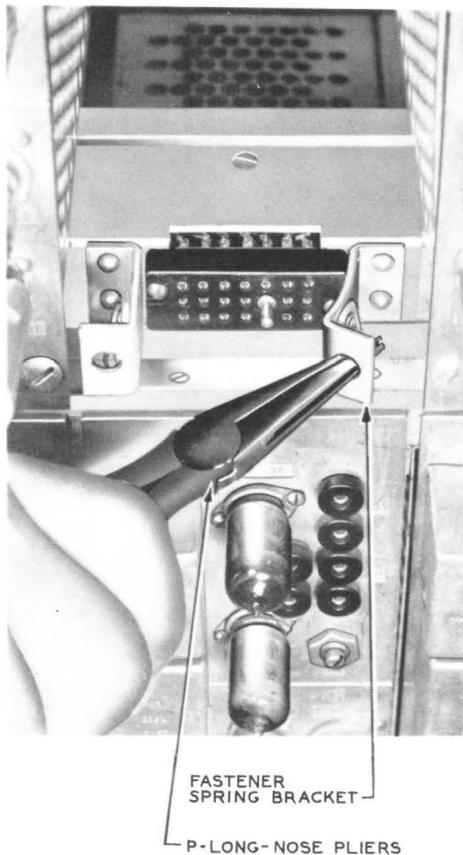
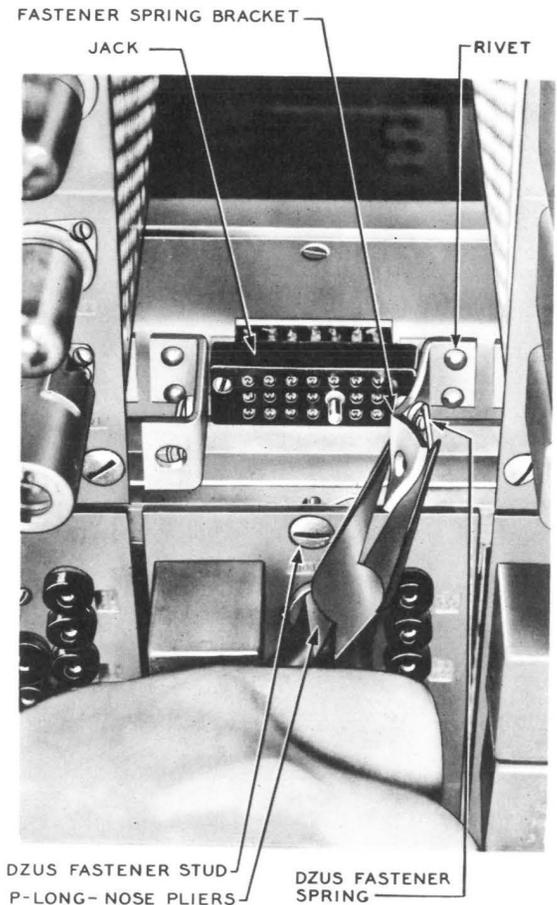

Fig. 2 - Method of Bending Bracket to Gain Access to Rivet
Fig. 3 - Method of Bending Bracket to Gain Access to Rivet
4.03 Removal and Remounting of Channel Unit: Remove the channel unit on which springs are to be replaced as follows. Turn the fastener studs (Fig. 3), securing the unit, 90 degrees counterclockwise, using the 4" regular screwdriver, and pull the unit straight out. After making the necessary replacement of parts, remount the unit. Take care in doing this that the plug on the unit fully engages the jack shown on Fig. 3. Turn the fastener studs 90 degrees clockwise so that they engage their associated springs. Take care in doing this not to turn the fastener studs beyond their locked positions or the springs may be overstressed.
4.06 Insert the P-long-nose pliers into the hole in the fastener spring bracket and bend the bracket as shown in Fig. 2. Then twist the bracket as shown in Fig. 3. This is done to gain access to the bracket mounting rivets which must be removed.